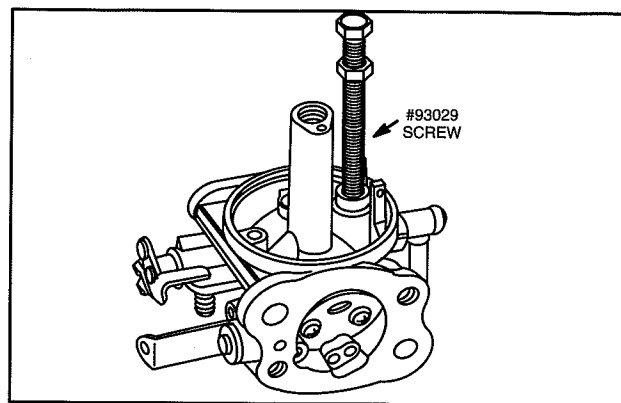

Fig. 31 – Remove Inlet Body
1. Use self-threading screw #93029 from flywheel puller, Tool #19165. Thread screw into seat body 3-4 turns. Then, remove the screw, Fig. 31.